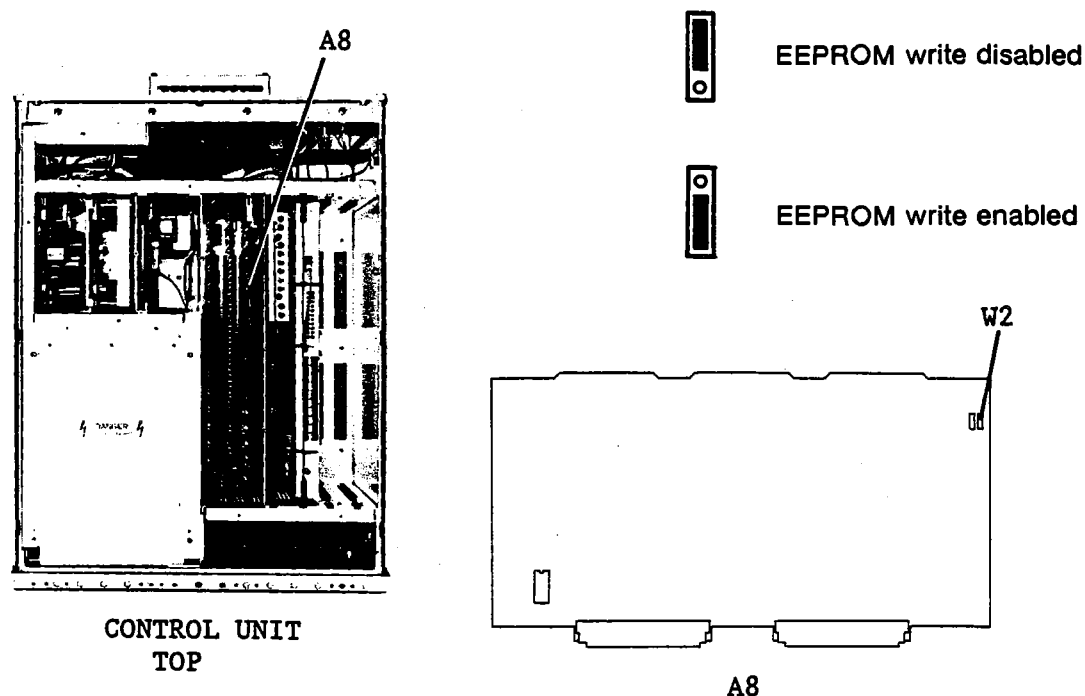

Figure 3-139. EEPROM Write Enable Jumper Location
3. Move jumper A8W2 to the EEPROM write enable (lowermost) position, as shown in Figure 3-139, to write-enable the EEPROM so that the calibration data can be written to it.